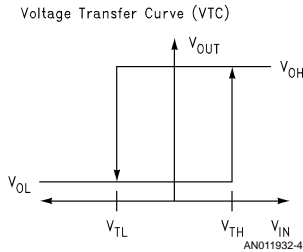

FIGURE 3. Threshold Voltages
the logic element according to specification, as the input voltage rises from a level below the negative-going threshold voltage,  $V_{TL}$ . See Figure 3. Note that  $V_{TH}$  has also been used in the past to specify both thresholds in one parameter. In this case,  $V_{TH}$  represents the Threshold Voltages and supports a minimum and maximum limit, for example,  $\pm 200$  mV.
**$V_{TL}$ —Negative-Going Threshold Voltage.** The voltage level at a transition-operated input that causes operation of the logic element according to specification, as the input voltage falls from a level above the positive-going threshold voltage,  $V_{TH}$ . See Figure 3 above.